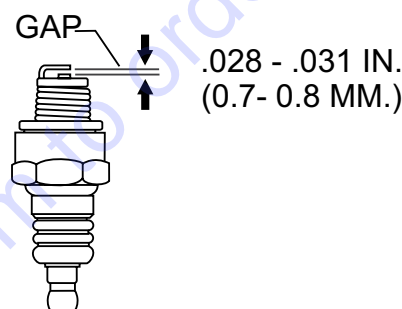

Figure 48. Spark Plug Gap
1. Remove and clean spark plug (Figure 48) with a wire brush if it is to be reused. Discard spark plug if the insulator is cracked or chipped.